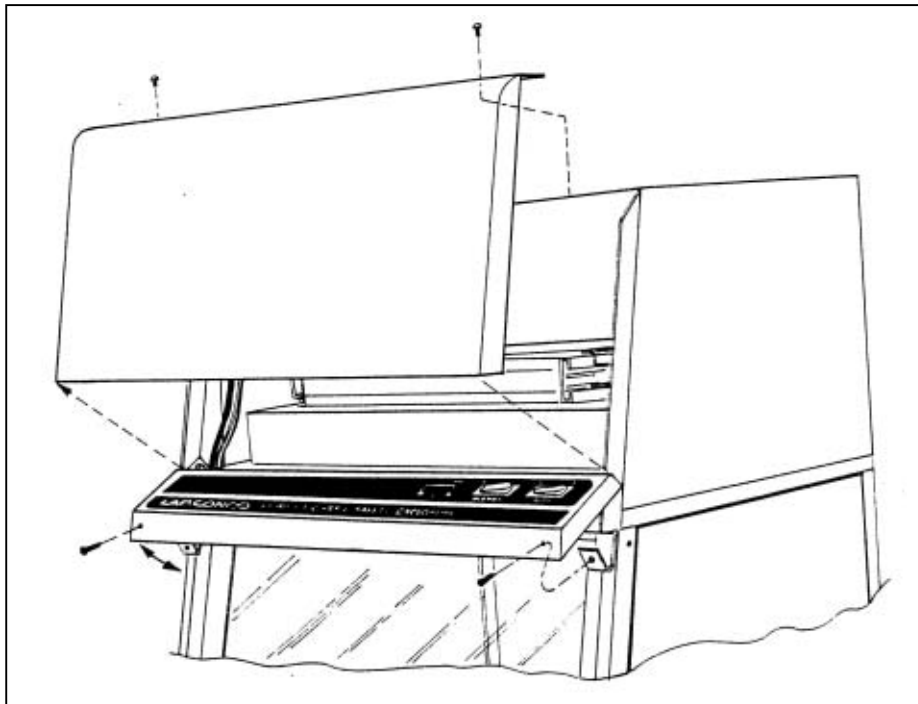

Figure 7
1. Locate the front dress panel, just above the control panel. Remove the two screws located on the top of the panel. Remove the panel by pulling it slightly upward and out, as shown in Figure 7.
2. Locate the control panel on the front of the cabinet, which has the filter indicator lights and switches. Remove the screws located on each lower end of the panel. Swing the panel upward for access to the fluorescent lamp as shown in Figure 7.